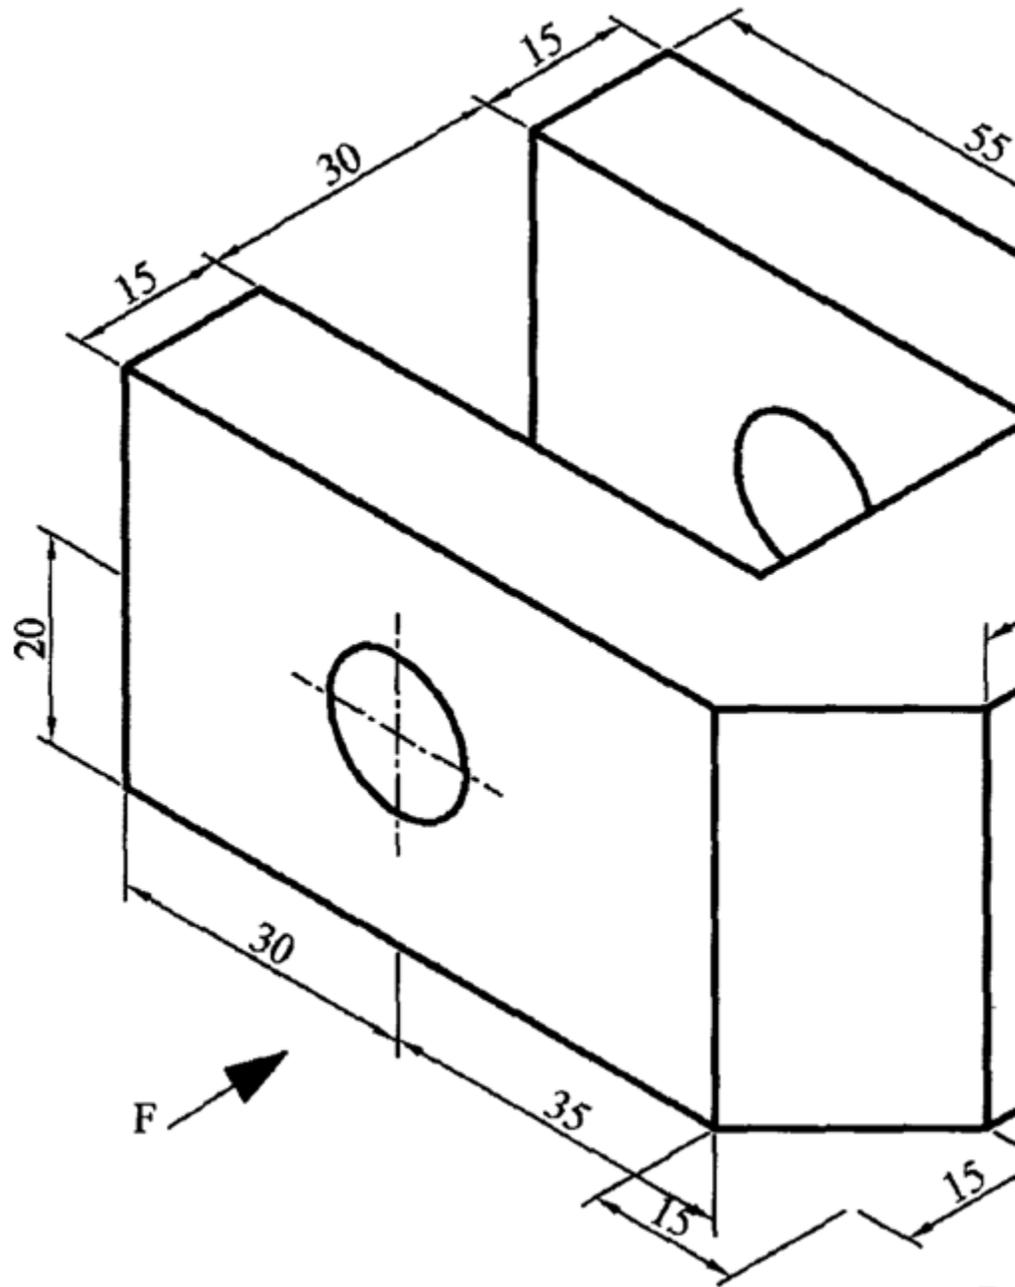

Figure 1
11. Figure 1 shows an aircraft locking bracket drawn in isometric projection.